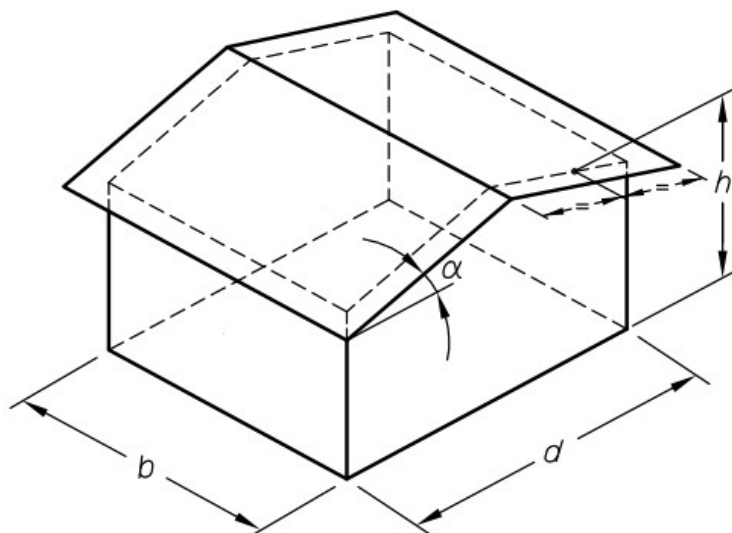

Figure 1 - Building Dimensions Definition
For building dimensions definition, please see **Figure 1**.
- Building aspect ratio **eArc panels attached to enclosed building with aspect ratios $h/d \leq 0.5$ and $h/b \leq 0.5$, see Figure 1**